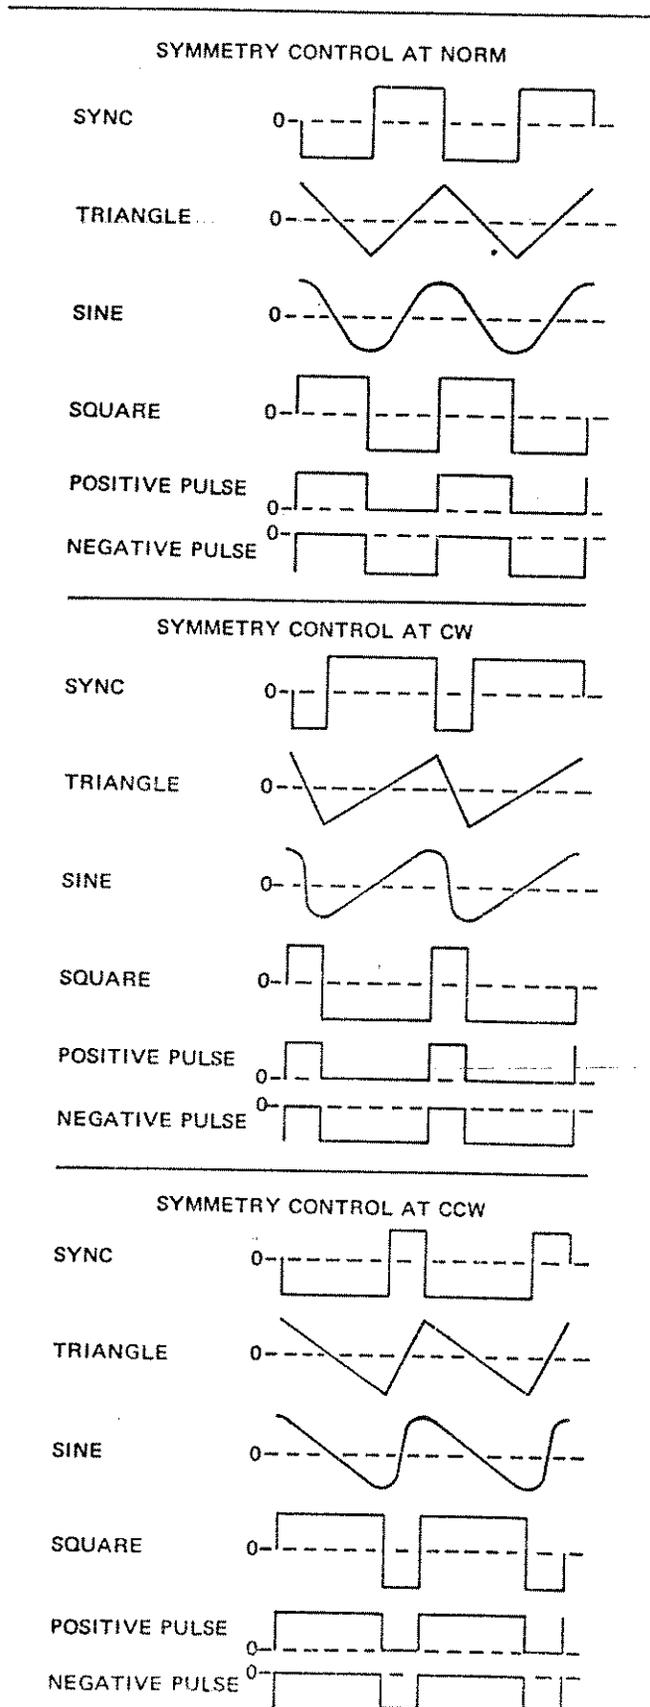

Figure 2-3 - Waveform Phasing and Symmetry Control
2. **Frequency Dial** — This is the main frequency control. The setting on this dial multiplied by the frequency range setting (above) equals the output frequency of the generator. The frequency vernier (3) and the symmetry control (11) also affect the generator frequency. Note their effect in the listing below.
6. **Amplitude Vernier** — A vernier control of the output amplitude. Maximum clockwise position gives the full output amplitude of 30 V peak-to-peak into an open circuit or 15 V p-p into a 50 $\Omega$  load, except positive and negative pulse which are 7.5 V zero-peak amplitude into 50 $\Omega$  load. Counter-clockwise rotation will continuously reduce the output amplitude. The control gives a minimum of 20 dB variation (10:1). This control operates in conjunction with the output attenuator (9). For maximum amplitude output this vernier must be full clockwise and the output attenuator in the "0 dB" position.
7. **Sync Out** — This output provides a square or rectangular output at the same frequency of the main generator. The output amplitude is approximately 2 V p-p into 50 $\Omega$ . The phase relationship between the sync output and the waveforms from the 50 $\Omega$  output is as shown in Figure 2-3
9. **Output Attenuator** — Attenuates the output from 0 dB (15 V p-p 50 $\Omega$  max) to -60 dB (15 mV p-p into 50 $\Omega$ ) in six, 10 dB steps. The vernier (6) adds an additional -20 dB, thus, a maximum of -80 dB (1.5 mV p-p into 50 $\Omega$ ).
8. Set SYMMETRY switch/control for desired symmetry or dissymmetry. The symmetry control can be used to develop ramp waveforms with variable rise fall ratios and pulse trains with variable duty cycle. By using the sine wave with dissymmetry, controllable sine distortion can be developed. Figure 2-3 shows the effect of this control on output waveforms.